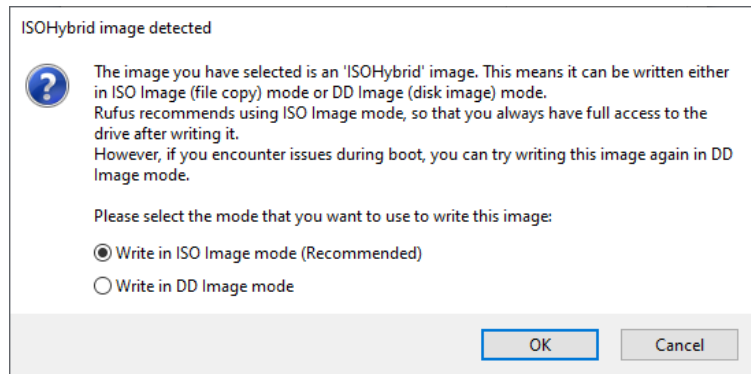

Figure 2: Creating a bootable USB with Rufus, select ISO mode
4. Select the ISO mode as shown in Figure 2.